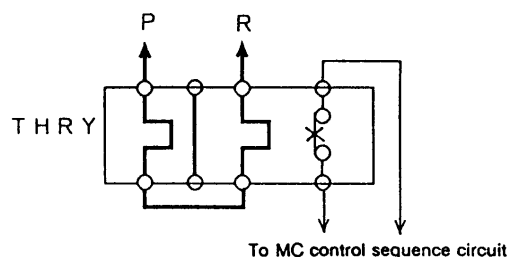

Fig. 7-6 THRY connection
- (3) Connect the thermal relay for DBR as shown in Fig. 7-6.
(4) Set the following parameters when using V21-DBU.